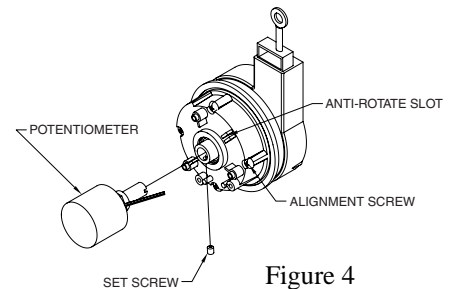

Figure 4
4. Using a .050" hex driver, loosen the set screw securing the potentiometer and slide the potentiometer out of the main shaft (Fig. 4).
12. Insert potentiometer into shaft of transducer, with anti-rotate arm aligned with alignment screw shown in Fig. 4.
13. Turn the potentiometer counter-clockwise until the anti-rotate rod is slightly past the anti-rotate slot (Fig. 4).
15. Rotate potentiometer clockwise while deflecting anti-rotate rod enough to drop into slot in transducer housing (Fig. 4).